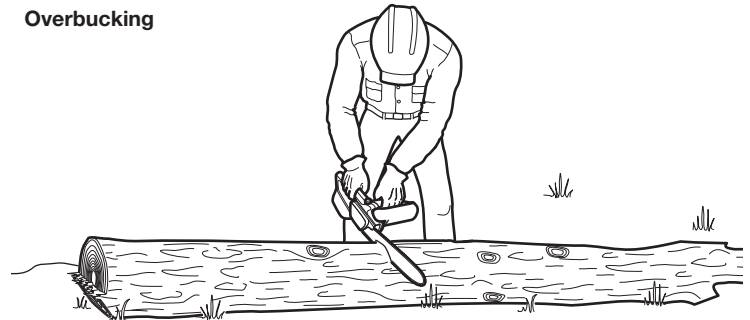

Fig. 24
When logs are supported along the entire length, extra care should be taken to make sure the saw chain does not contact the ground or other support structure (Fig. 24).
1. Begin cutting from above, with the bottom of the saw chain against the top of the log (Fig. 24).